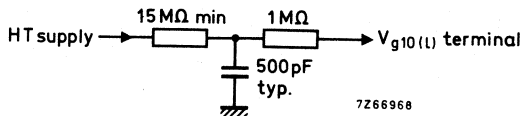

Fig. 8.
1. These values are valid at cut-off of both viewing (flood) guns and the writing gun. The H.T. unit must be capable of supplying 0,5 mA. To protect the tube against excessive surge current during erasure, an adequately dimensioned RC-network must be connected in series with the screen terminal lead (Fig. 8).